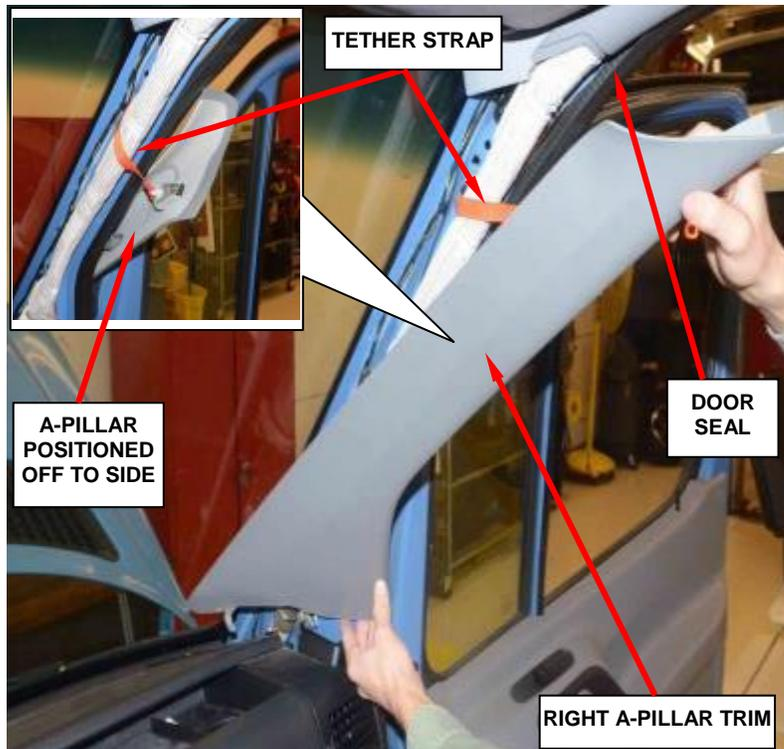

Figure 6 – Right A-Pillar Trim
- 8. Partially remove the right front door seal near the A-Pillar (Figure 6).
- 9. Remove the right A-Pillar trim and position off to the side (Figure 6).
30. Install the A-Pillar trim panel (Figure 6).